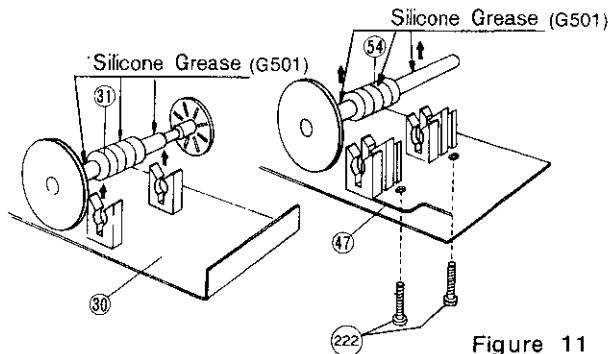

Figure 11
**(F) REMOVE THE WORM GEARS, (31) AND (54), AS FOLLOWS:**
- Worm gears have been press-insert mounted. When worm gears are lifted, make sure to apply an equal force to each connecting parts (Fig. 11).
- To lift the Worm Gear (54) remove the two Screws (222).